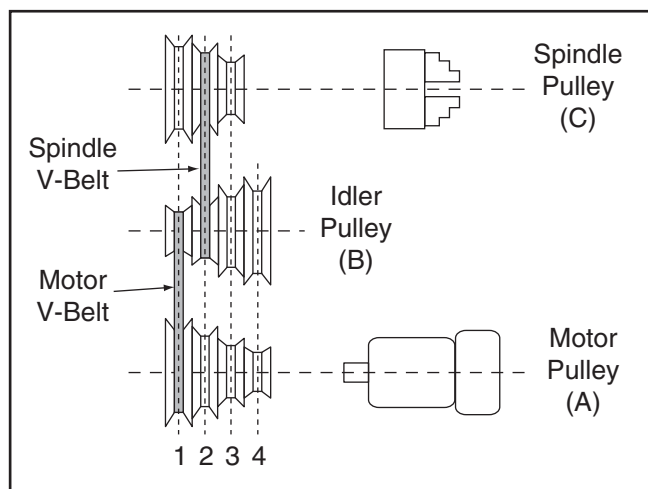

Figure 57. Lathe V-belts configured for a lathe spindle speed of 1250 RPM.
Step 5: Position the spindle V-belt on the second spindle and idler pulley (B–C), then install the motor V-belt on the first motor and idler pulley, as shown in **Figure 57**.